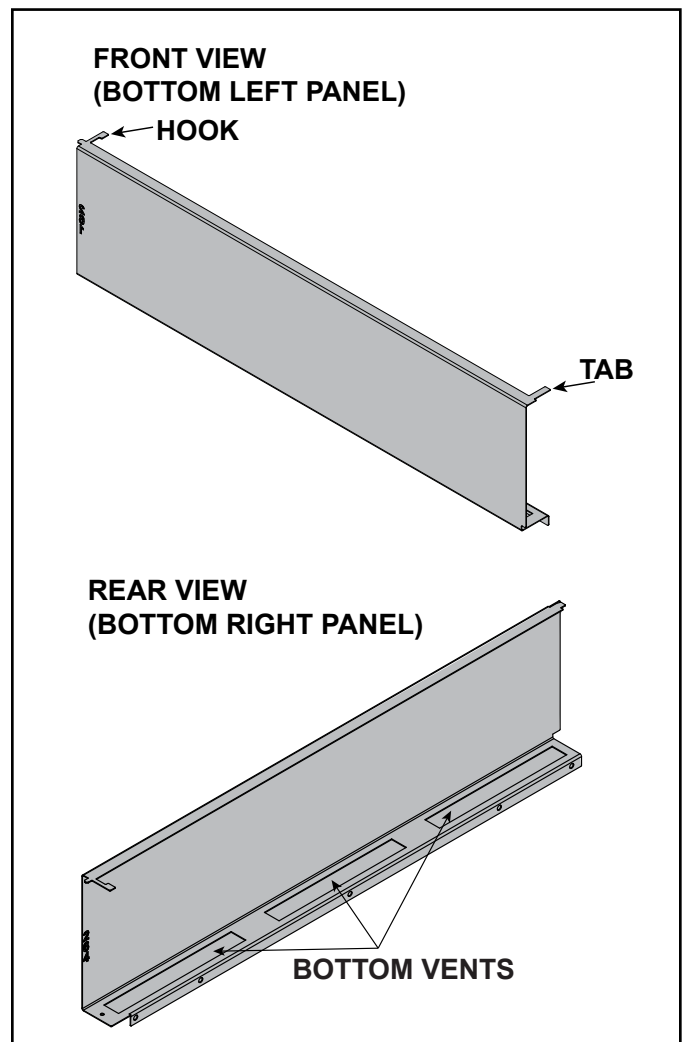
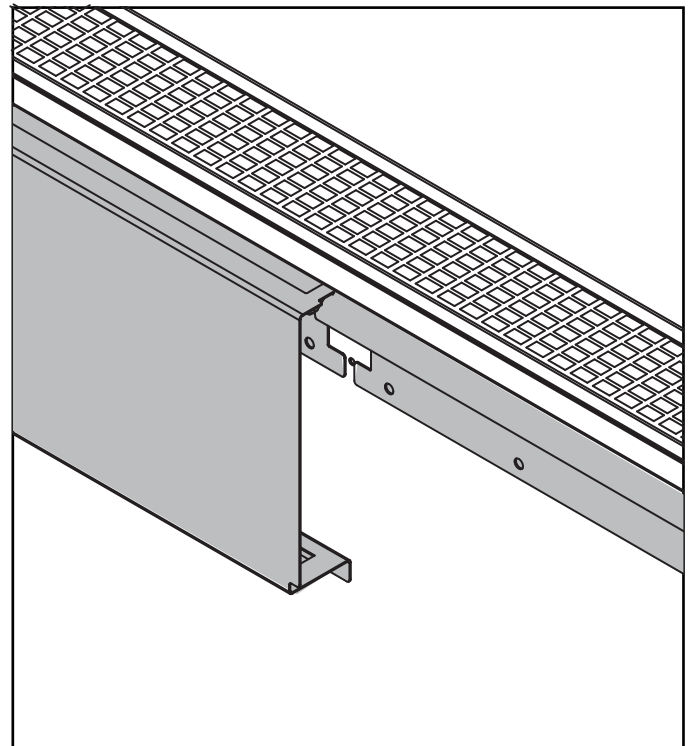

Figure 10 Bottom Panel Vents (Bottom Left Panel Shown)
Figure 11 Bottom Left Panel Installed
4. Place the bottom left panel so that the vents are directed toward the bottom of the appliance. See Figure 10. Align the top bend with the sheet rock ledge on top. Interlock the top left outside hook and then engage the center top tab with the slot on the bottom rail. Hold top edge flush. Install the bottom screws. See Figure 11.